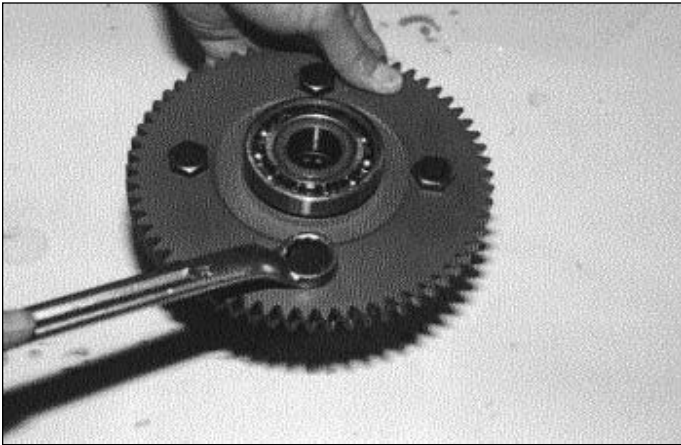

Figure 33 - Differential
13. To remove differential gear from differential housing, first remove four (4) bolts. See Figure 33.